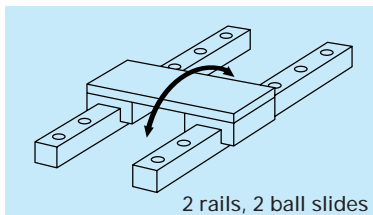
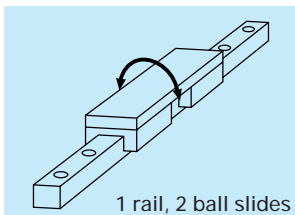
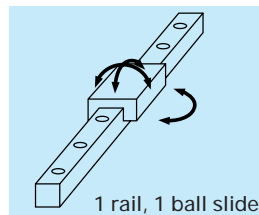

Fig. II-2-5 Pitching direction
Fig. II-2-6 Rolling direction
Fig. II-2-7 All directions
- However, in cases as shown in Fig. II-2-5, Fig. II-2-6 and Fig. II-2-7, it is necessary to take into account the moment rigidity in addition to the radial rigidity.